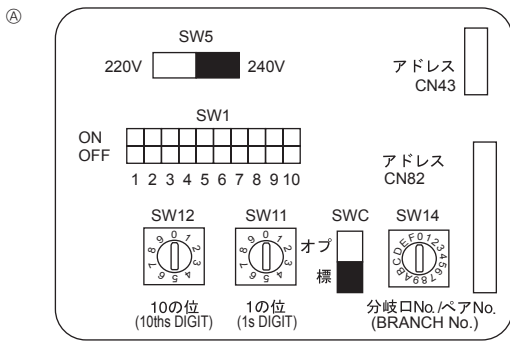

Fig. 7-4
7.5. Setting addresses (Fig. 7-4)
④ Address board
7.6. Sensing room temperature with the built-in sensor in a remote controller (Fig.7-4)